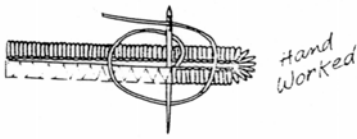

Figure 18
2. Take a stitch in the lip, and wrap the thread around and underneath the needle forming a loop. (Figure 18)